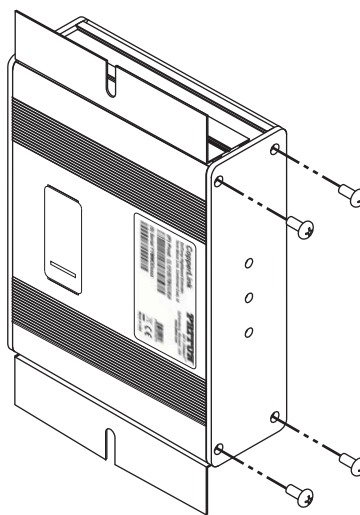

Figure 10. Installing the rear panel
4. Install the rear panel onto the CL1200E enclosure using the screws removed in step 1 as shown in figure 10.